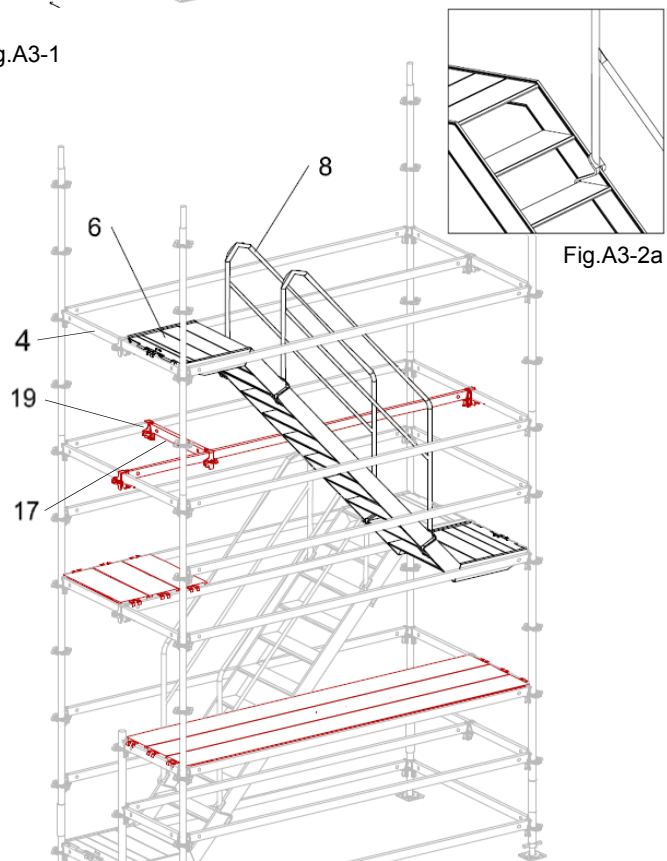

Fig.A3-2
Remove the temporary Ledger UH 75 (17), and Ledger to Ledger Coupler UHA Half (19), indicated in Fig. A3-2.